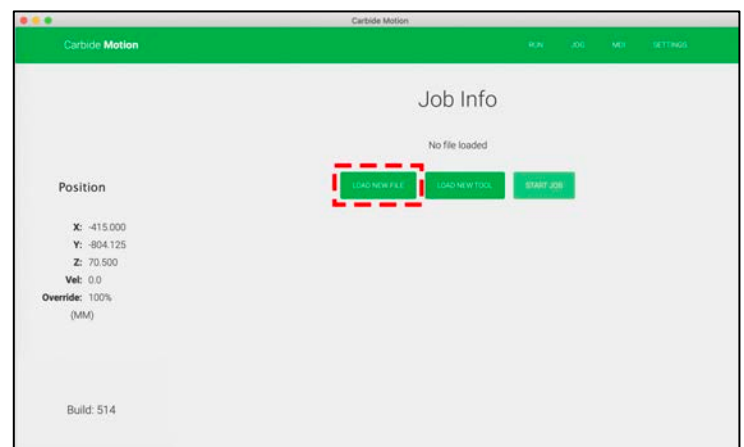

Figure 24
6. Once the initialization sequence is complete, you can load and run a job by clicking the **Load New File** button. See *Fig. 24*.